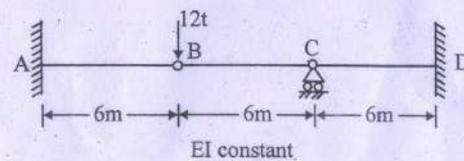

Fig. 4.
5. Develop the stiffness matrix for the continuous beam ABCD with an internal hinge at B, as shown below in Fig. 4.